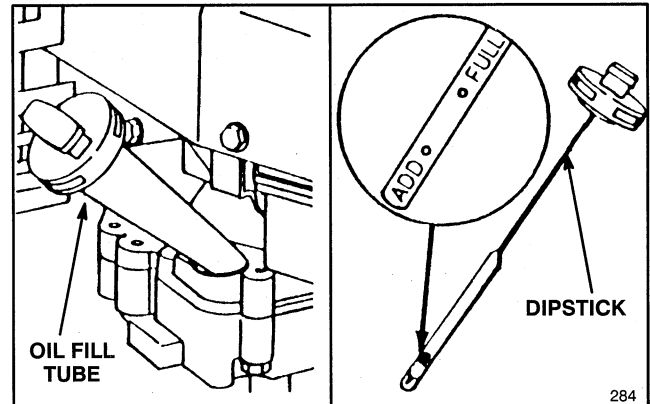

Figure 6
Fill crankcase with SAE 30 oil until oil level reaches FULL mark on dipstick as shown in Figure 6. The maximum crankcase capacity is 25 ounces (0.75 liters) of oil. Use any high quality detergent oil having the American Petroleum Institute (API) "service classification"—SF, SG or SH.
Before each use, ensure oil level is between ADD and FULL marks on dipstick (Fig. 6). Add oil if level is low.
3. Wipe dipstick and insert it into filler neck. Rotate cap clockwise 1/4 turn. Then remove dipstick and check level of oil (Fig. 6). If level is low, add only enough oil to raise level to FULL mark on dipstick. **DO NOT FILL ABOVE FULL MARK BECAUSE ENGINE COULD BE DAMAGED WHEN STARTED. POUR OIL SLOWLY.**
1. **CHECK OIL LEVEL**—Maintain oil level between ADD and FULL marks as shown on dipstick (Fig. 6).